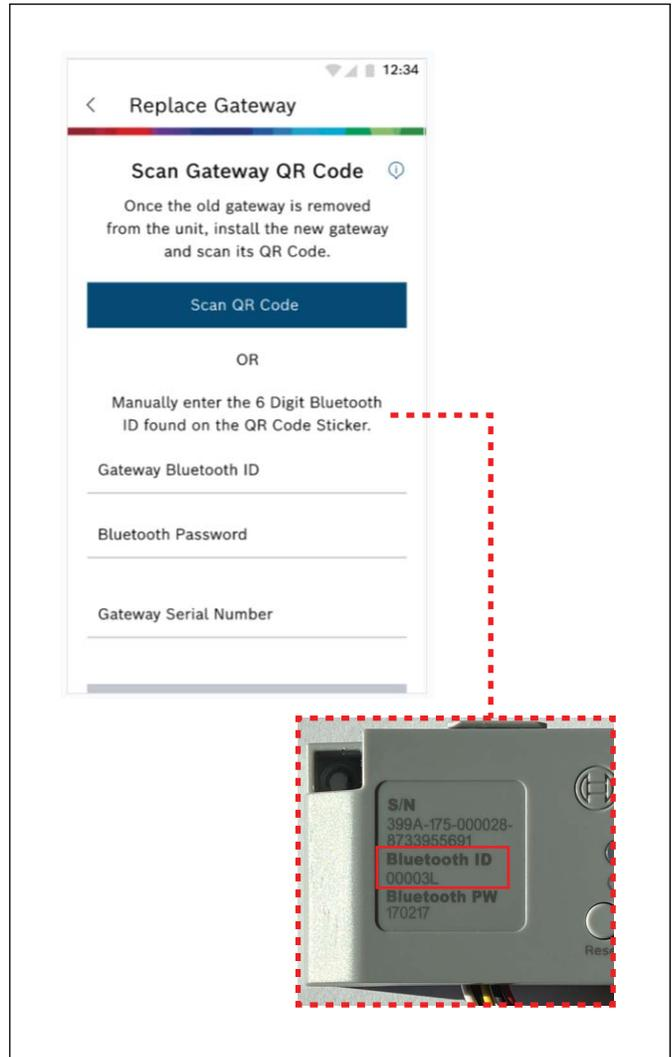

Figure 17
- 22. Scan the New Gateway's QR Code, or manually enter the requested information found on the left side of the Gateway (Refer to Figure 17).